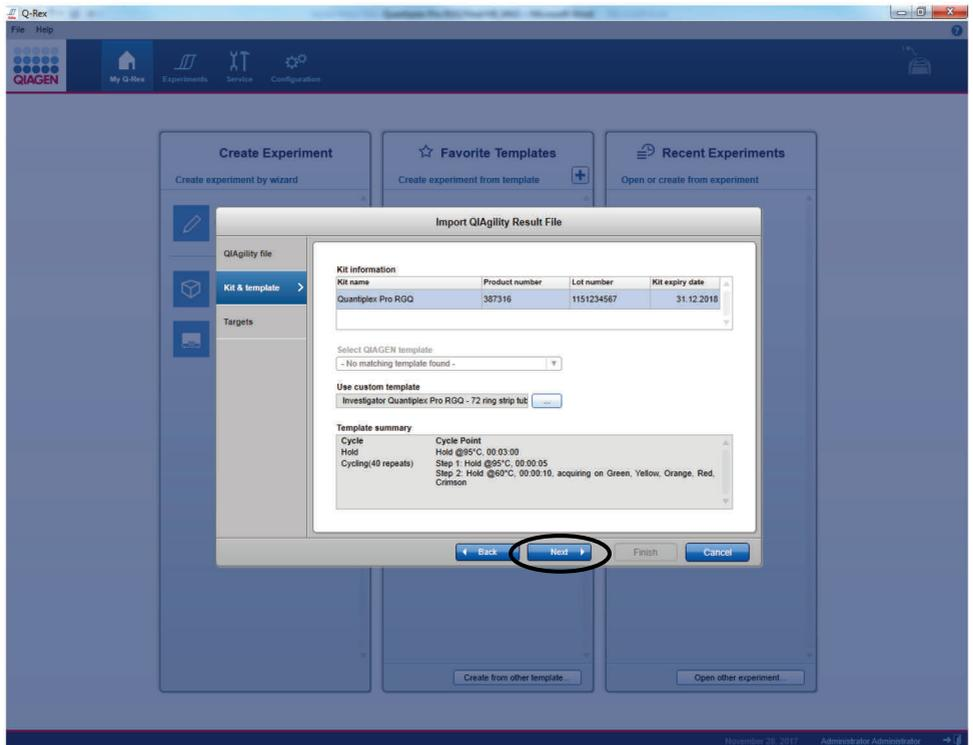

Figure 20. Selecting the Quantiplex Pro RGQ Template Q-Rex.
29. Confirm kit information, Q-Rex Template and click next (Figure 20).